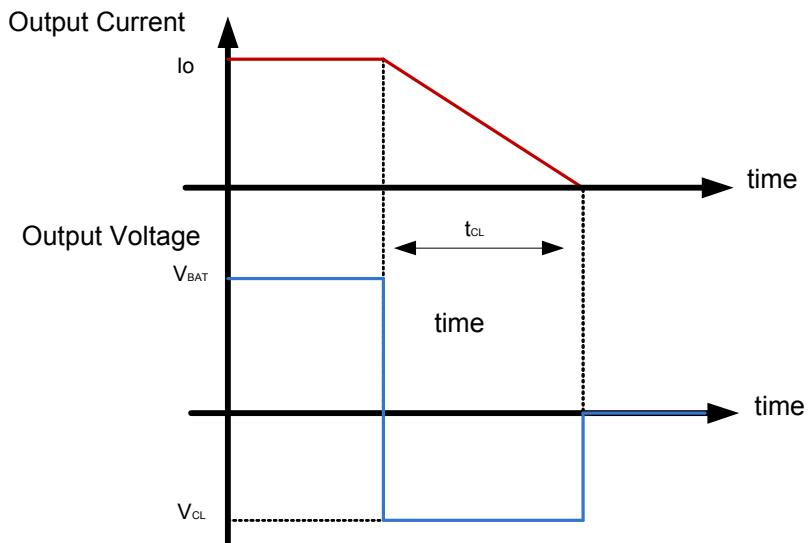

Figure 21. Simplified negative output clamp waveform
In case of an inductive load (L), the energy is dissipated after the turn-off inside the N-channel MOSFET. When $t_{\text{CL}} (= i_{\text{O}} \times L / V_{\text{CL}}) > 1.0 \text{ ms}$, the turn-off waveform can be simplified with a rectangle as shown in Figure 21.